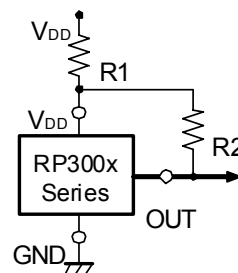

Figure 23.
- Connections such as shown in Figure 23, may cause an unstable operation of all output types, so please avoid this style of use.